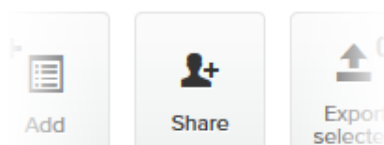

Figure 73. Plug-ins web page (Share button)
4. Click the **Share** button in the upper left-hand corner of the **Plug-ins** web page (Figure 73 \(page 151\)).